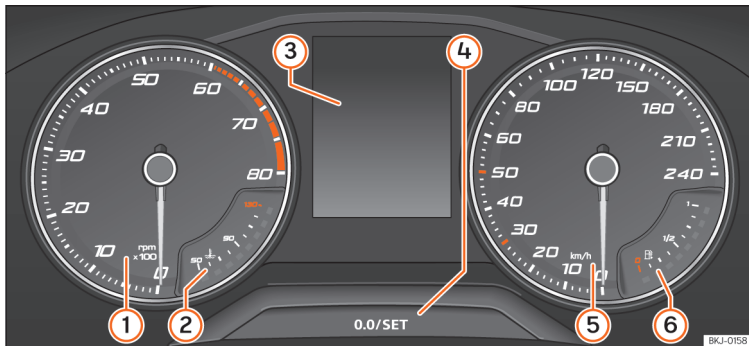

Fig.117 Instrument panel, on dash panel.
Details of the instruments » **Fig. 117:**
- Briefly press the button **0.0/SET** »» **Fig. 117** **4** to reset the trip recorder to 0.